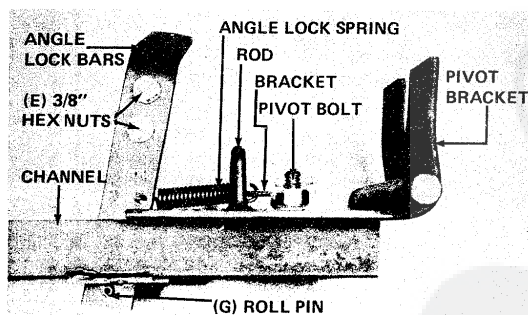

FIGURE 3
5. Tighten the 3/8" hex nuts (E) holding the angle lock bars together. See Figure 3.